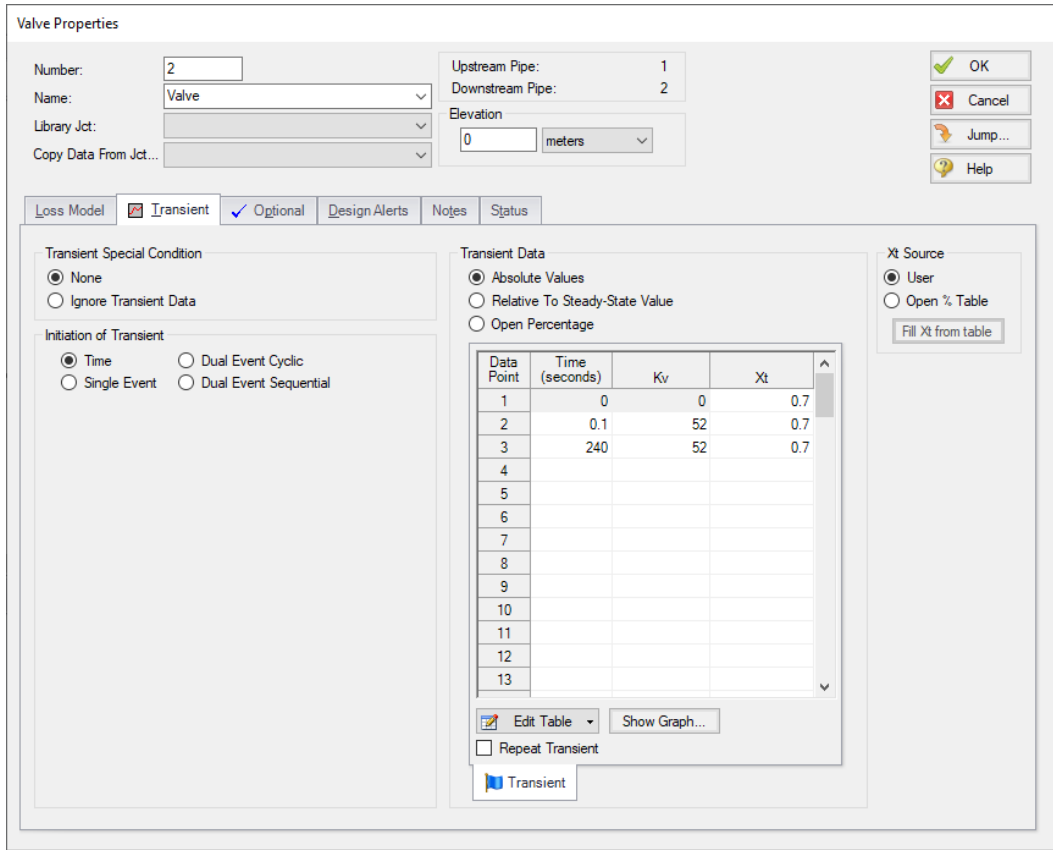

Figure 2.10 Transient input data for Valve junction J2
- Click the Transient tab and select "Time" under "Initiation of Transient" to indicate that the valve closure will be initiated at the time you specify, then enter the following Kv vs. Time data (Figure 2.10).